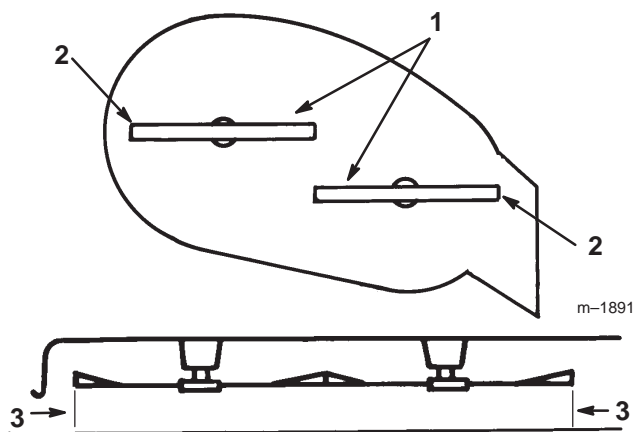

Figure 47
4. Carefully rotate blade(s) side to side (Fig. 47). Measure between the outside cutting edges and the flat surface (Fig. 47). If both measurements are not within $3/16$ ” (5 mm), an adjustment is required; refer to steps 5 and 6.